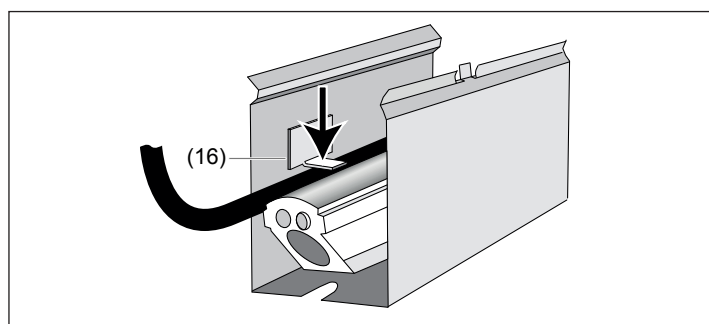

Figure 8
- Fix the connection cables using cable holders (16). For this bend all cable holders (16) inside of the mounting rails into horizontal position by using a blunt instrument (figure 8).